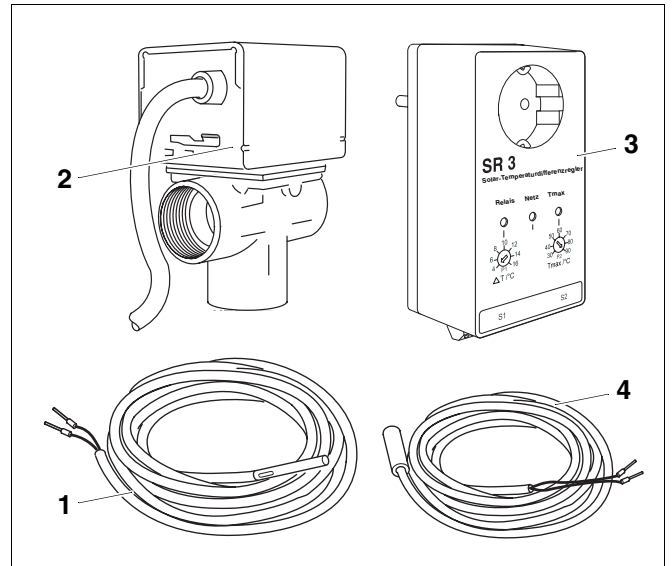
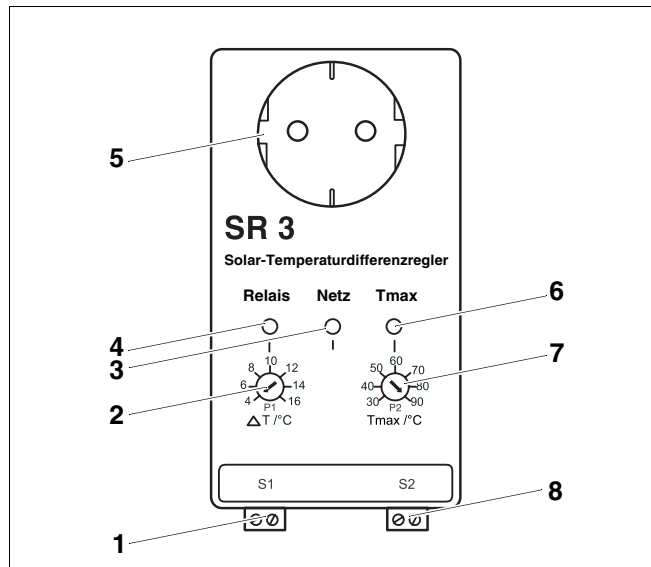

Fig. 1 The standard delivery comprises
Fig. 2 Socket controller SR 3
The standard delivery comprises (Fig. 1)
When the switch-on temperature differential of 4 Kelvin (Fig. 2, **item 2**) is reached, the motorised 3-way valve (Fig. 1, **item 2**) is activated – the LED "Relais" ("Relay") (Fig. 2, **item 4**) illuminates.
The volume flow is channelled to the boiler, if the temperature differential falls to half the switch-on temperature differential (here: 2 Kelvin) – the LED "Relais" ("Relay") (Fig. 2, **item 4**) illuminates.